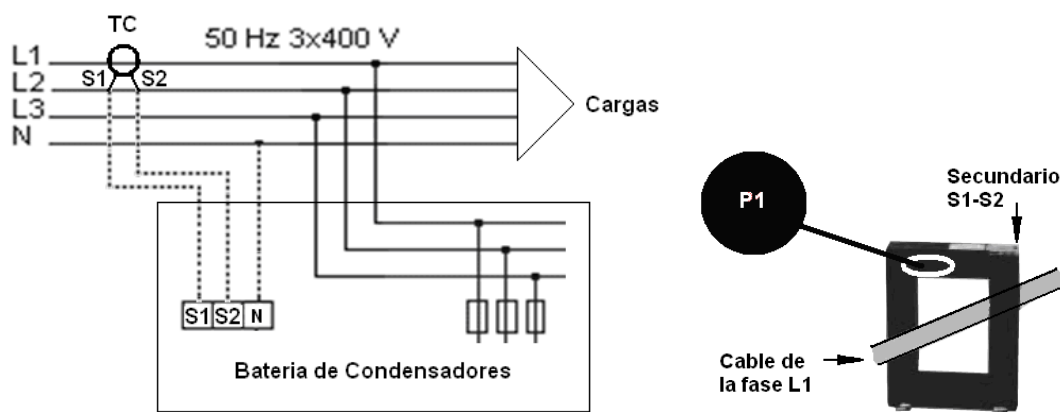

Figure 6: Installation of the external current transformer (CT).
3.9.- CURRENT TRANSFORMER (CT) CONNECTION
A current transformer (CT) that is external to the capacitor bank must be installed to measure the total load current plus that of the capacitor bank (Figure 6).
The standard transformer must have a nominal output of 5 A at the secondary. We recommend connecting the CT to phase L1 in the direction of the current flow from P1 to P2 (see **Figure 6**) and connecting the secondary (terminals S1, S2) to the terminals with the same name on the capacitor bank (see **Figure 6**)